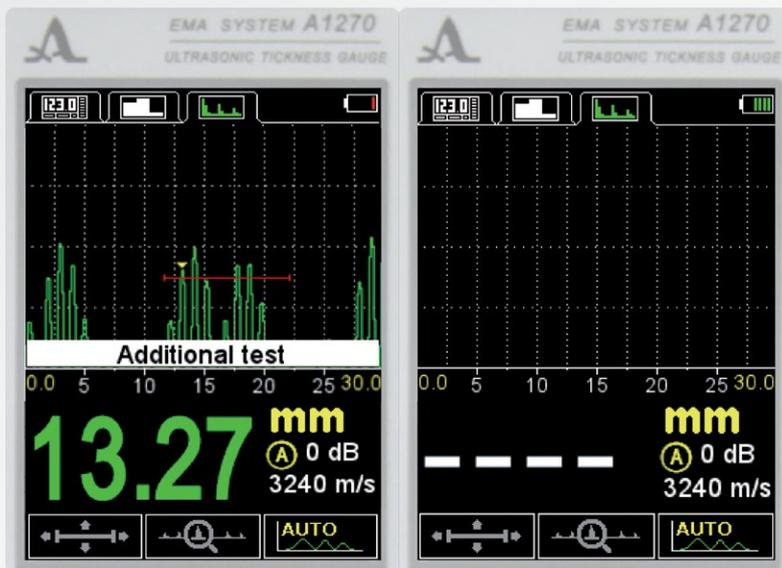

Figure 73
**Note:** Note: to reset the current measurement result and to prevent the EMAT from overheating please regularly perform an additional EMAT test in the air. To start an additional test please go to the automatic measurement mode, take the EMAT from the inspected object and press the key  or . The running line „Additional test” will appear. The result will be reset. (Figure 73).